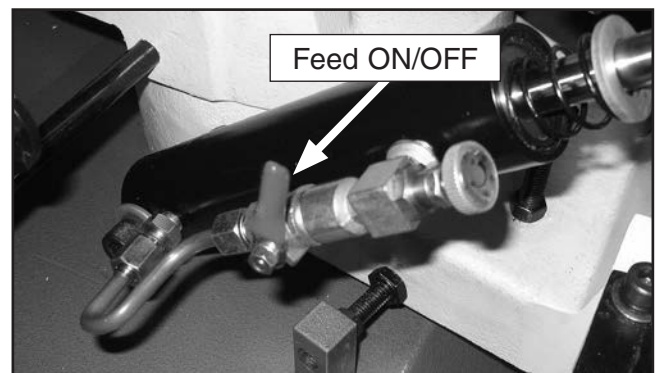

Figure 13. Feed ON/OFF Valve.
1. Raise the bow to the highest position and lock in place (**Figure 13**).